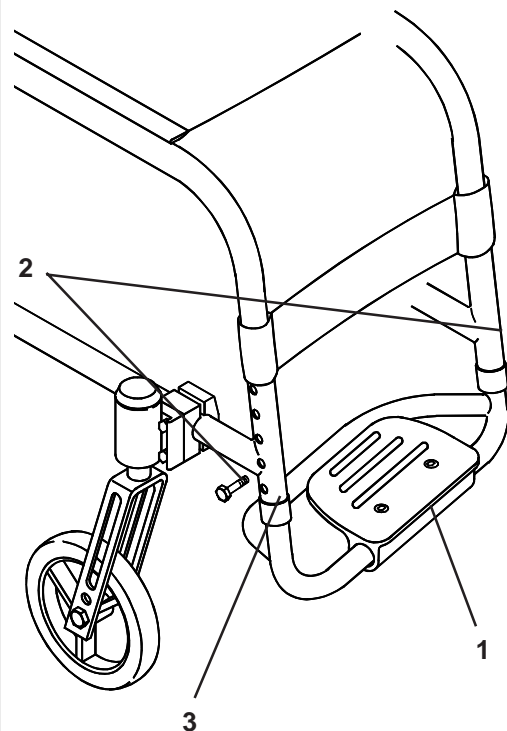

Fig. 20
To adjust the height (Fig. 20) of fixed footrests (1) remove the two No 2 Philips screws (2) on both sides of the front frame (3), position the footrest as required, locate the Philips screws in the correct holes and tighten to a torque setting of 5Nm.